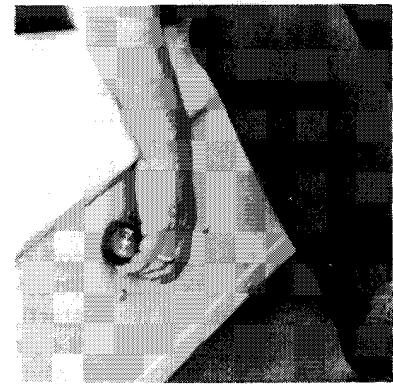

Figure 3-3
Forward-Reverse Control - The forward-reverse shift lever is located below and to the right of the driver's right knee on the seat support panel (Figure 3-3). The lever has three (3) distinct positions: F (forward), N (neutral), and R (reverse). Rotate the lever toward the driver (F) to run the car in forward and toward the passenger (R) to run the car in reverse. When the lever is in the straight up or neutral (N) position, the car will not run and the engine/motor will stop if shifted to this position while running. The DS Electric operates at half speed in reverse.